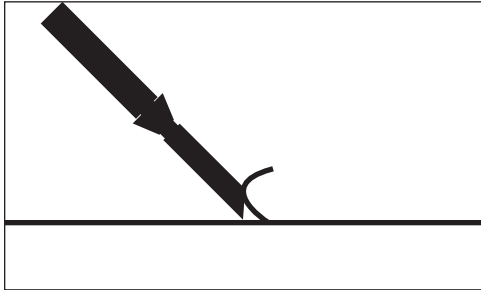
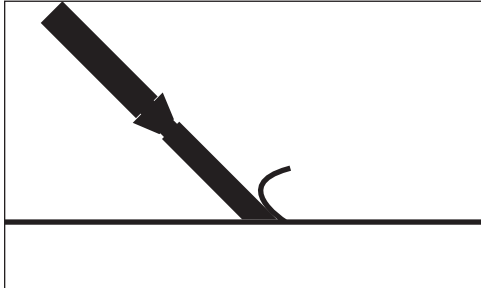

FIG. 4
FIG. 5
- Normally, bevel on the blade is up for concrete (Figure 4); bevel down for wood (Figure 5).